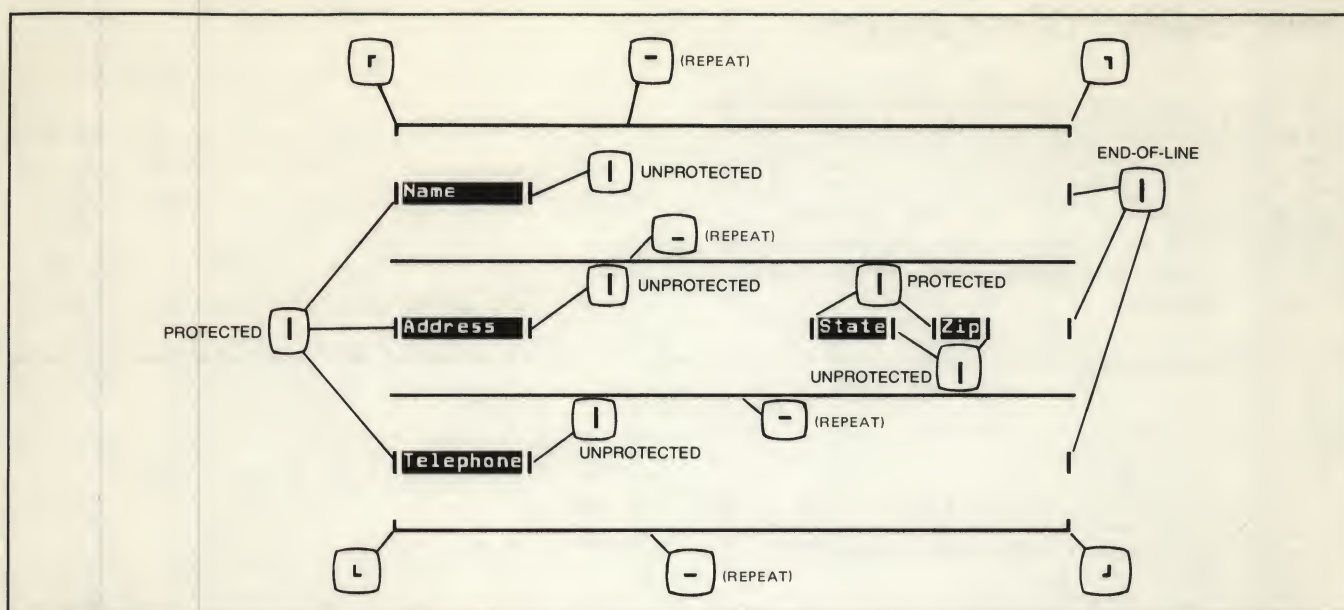

Figure A-5. Building a Form — Phase 1
2. Starting at the top left of your form, proceed to build your form — left to right — top to bottom. The soft key overlay will help you by giving the function of each key. Figure A-5 shows the details of building the sample form line-by-line during the first phase. The field headings (Name, Address, etc.) are "protected", and the fields to be filled by an operator are "unprotected".